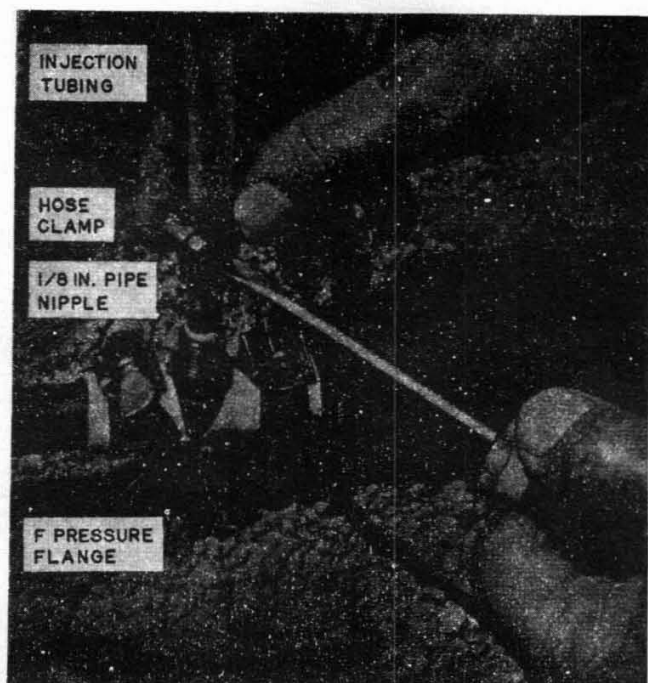

Fig. 16—Tubing Connection at F Pressure Flange
**5.12** After the drum or tank has been filled, replace the pressure testing valve with a B plastic tubing fitting or 1/8-inch pipe nipple, connect the injection tubing or hose (Fig. 16 or 17), and proceed as follows: